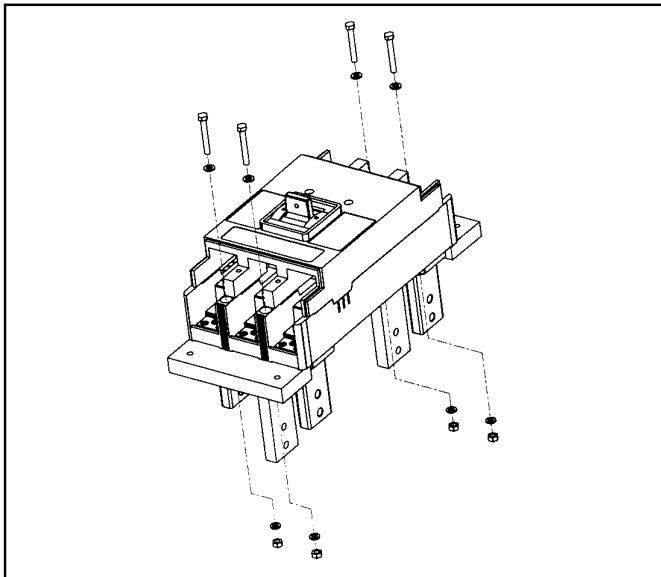

Figure 2-8. Mounting Plate Installation - 1600 A Rear Connect Circuit Breaker.
b. Attach the insulating Mounting Plates to the Line and Load sides of the circuit breaker as shown in Figure 2-8 with the M8 x 1.25 x 60 mm (2.4 in.) Pan Screw and hardware supplied with the Mounting Plate.